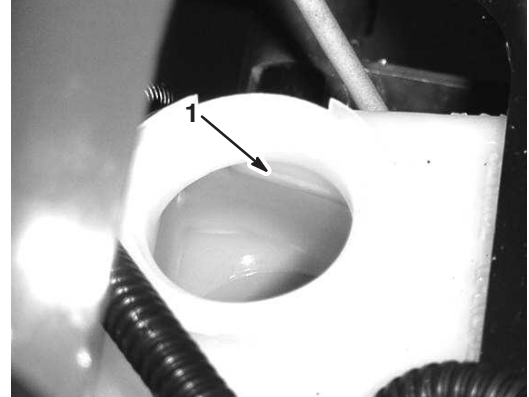

Figure 9
2. The fluid level should be up to the Full line on the reservoir (Fig. 9).